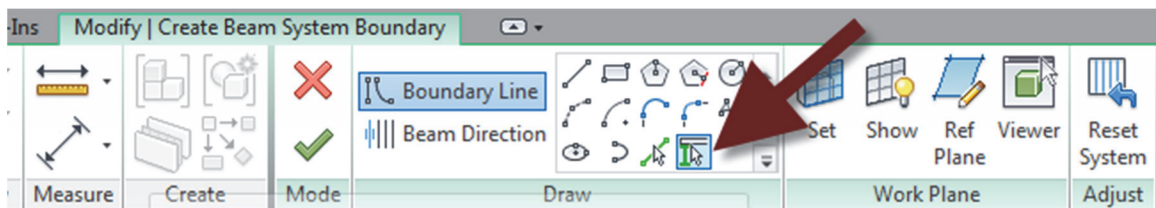

FIGURE 7-4.15 Ribbon: Beam system tool while in Sketch mode
39. Click the **Pick Supports** icon in the *Draw* panel of the *Ribbon* (Figure 7-4.15).